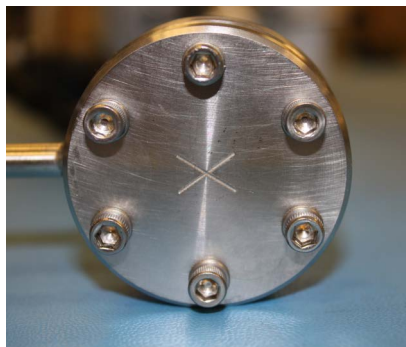

Figure B-1 Stainless steel mirror marking
1. Feel at the bottom of the cell for the engraved "X" marking. Refer to Figure B-1 below.